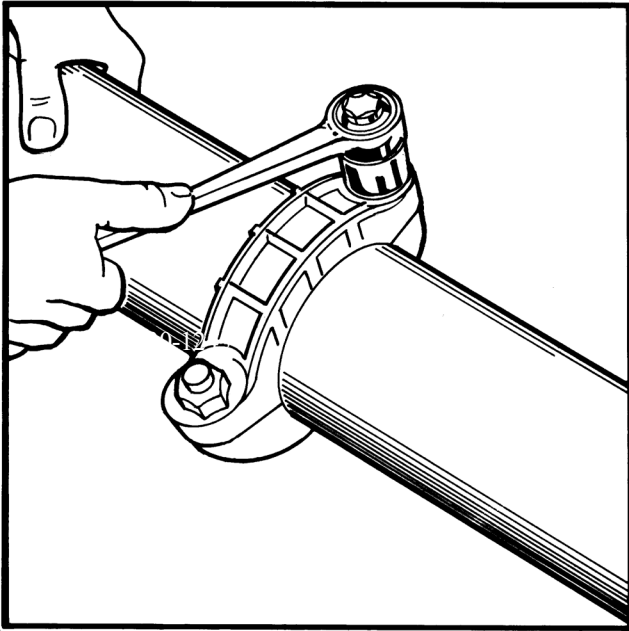

Fig. 12 — Install the Victaulic Coupling
To install the Victaulic¹ coupling connect the 30MPE water manifold piping to its associated chillers water manifold piping (see Fig. 12 on page 11).
5. Alternately tighten the nuts with a wrench to draw the coupling halves together uniformly as shown in Fig. 12 on page 11. The joint is now complete.